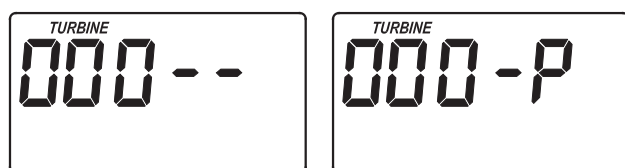

FIG. 35
1. Press and hold for 3 seconds the SELECT button, until one of the screens shown in Figure 35 is displayed. If the valve is in service, fill, solution draw / brining, backwash or fast rinse position (observe markings on the valve cam), the display should show "000 - -", meaning the position switch is open. When the valve is moving, the display should show "000 - P", meaning that the position switch is closed.
If a turbine has been installed in your filter's valve outlet port, the first 3 digits of the display in Figure 35 should count upward whenever water is flowing through the system.